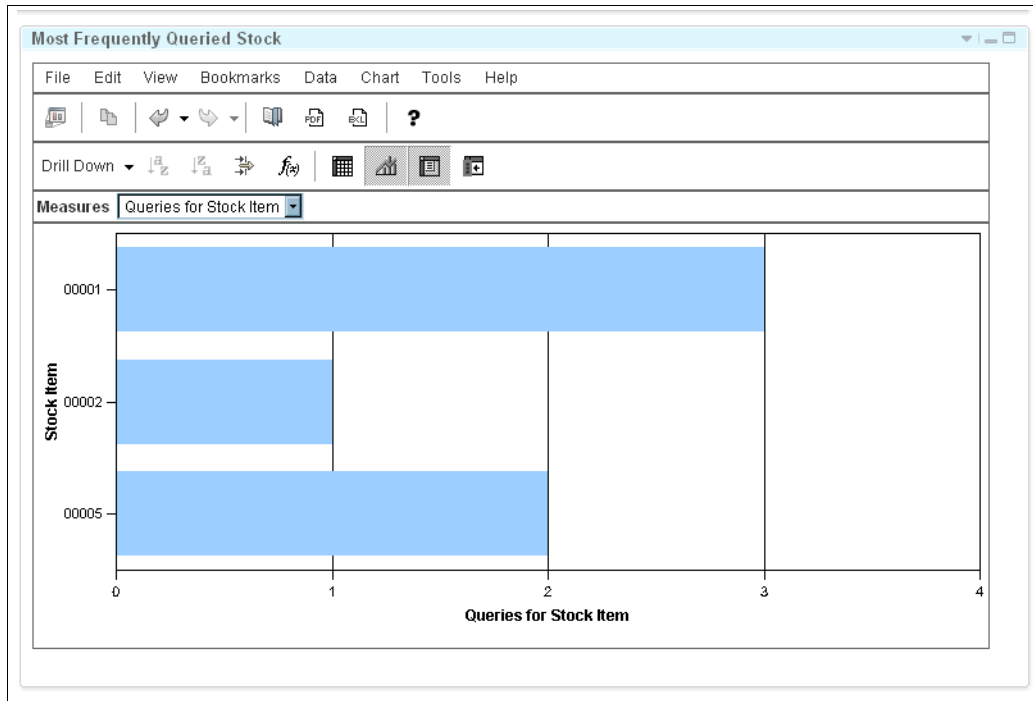

Figure 8-101 Stock queries
We see that the “Most Frequently Queried Stock” panel is showing the new queries, indicating that stock item 00001 is our most frequently queried. See Figure 8-101.